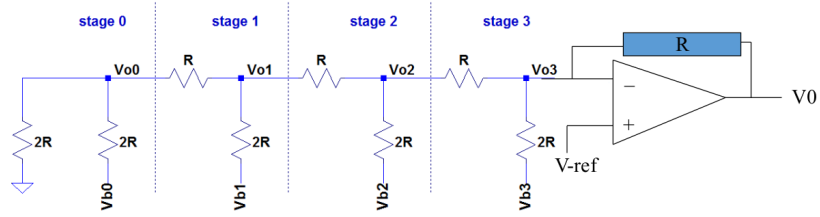

Figure 4: R-2R DAC
**Q5** For the 4-bit R-2R DAC, calculate  $V_0$  in terms of  $V_{b,0} - V_{b,4}$  if  $V_{ref}$  is grounded (Fig. 4).